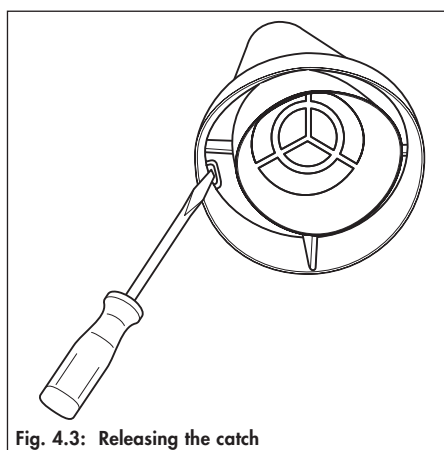

Fig. 4.3: Releasing the catch
- Use an 8 mm screwdriver to bend the catches inwards (fig. 4.3).